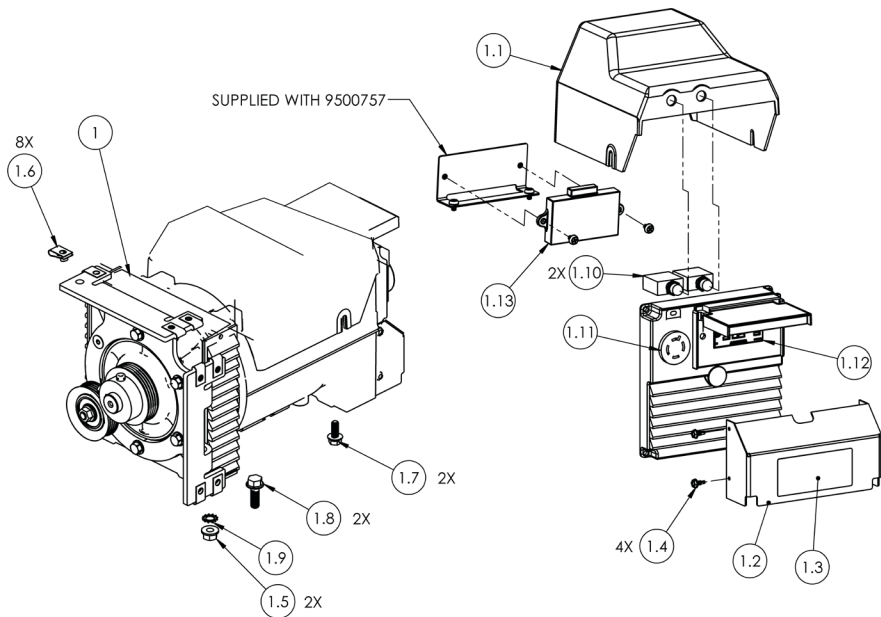

Figure 90 — Generator
2. Generator Assembly, 9500757 (Figure 90)